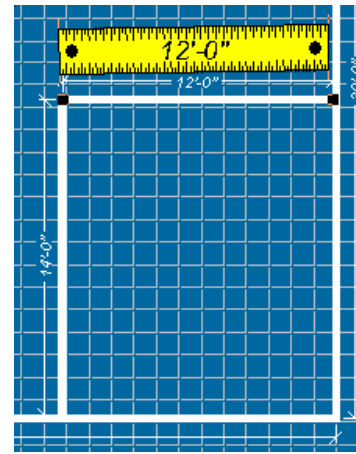

Figure 17
2. Continue drawing all your inside walls in this manner if you need to change where a wall is located **click** and **drag** the wall into place. It may also be necessary to stretch and change a wall length by dragging on it. An interior room is shown in **figure 17**.